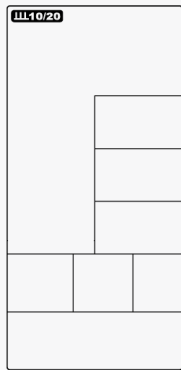
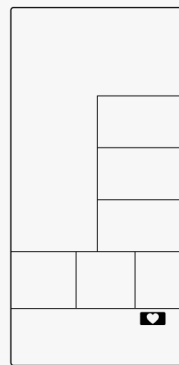

Figure 4
Figure 16
2. The window of INTERVAL10/20, INTERVAL10/20, INTERVAL CUSTOM, READY, WORK, REST, TIME, DISTANCE, CALORIES, WATTS, SPEED, RPM and will flash by sequence in every 1s (Figure 4~Figure 16). If no input of key operation or RPM signal or pulse input for 60s, computer will go to Sleeping mode.